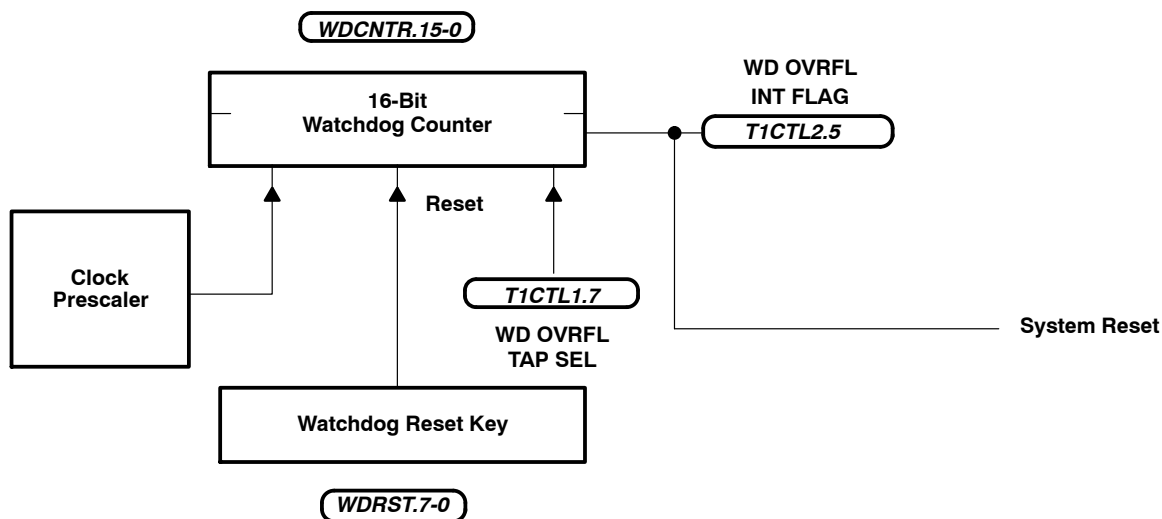

Figure 10. Hard Watchdog
- Hard watchdog configuration for mask-ROM device only (see Figure 10)